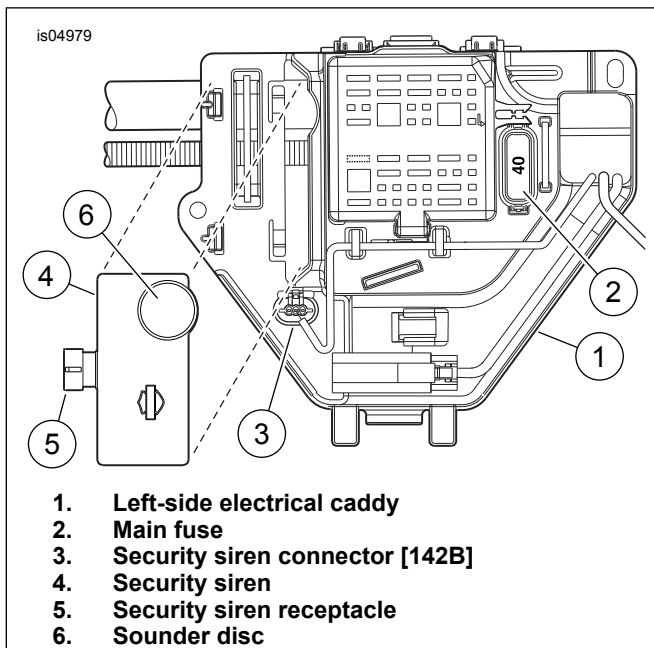

Figure 15. Siren Installation (2008 and Later FL Touring)
2. See Figure 15. Remove the security siren connector [142B] (3) from the retainer on the electrical caddy. Insert security siren connector [142B] into the security siren receptacle (5) until the connector latches securely.